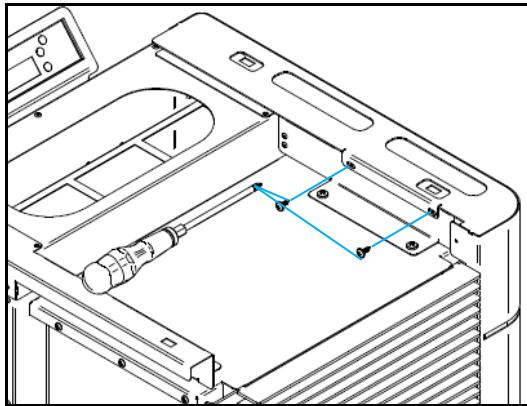

Figure 24 - Attaching the side casings the top of the unit
- d) Repeat the process described in b) and c) in this manual for the other casing and secure the side parts using four screws from the kit, two on each side, as shown in Figure 24.
- f) For the model K200 it is also necessary to place the finishing front that came together with the machine. You must use 2 screws of the kit as shown in Figure 24.